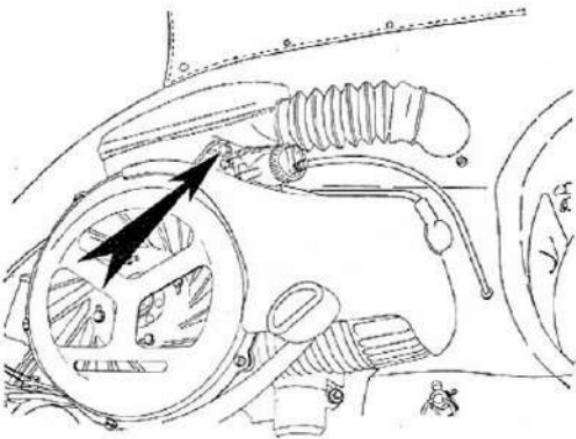

Fig. 13 - Screw securing the air cleaner.
1) - Remove the rubber bellows connecting the air cleaner to the elbow pipe secured to the chassis, then slacken the clamp screw to release the air cleaner from the carburettor (see Fig. 13). Undo the three screws, remove the